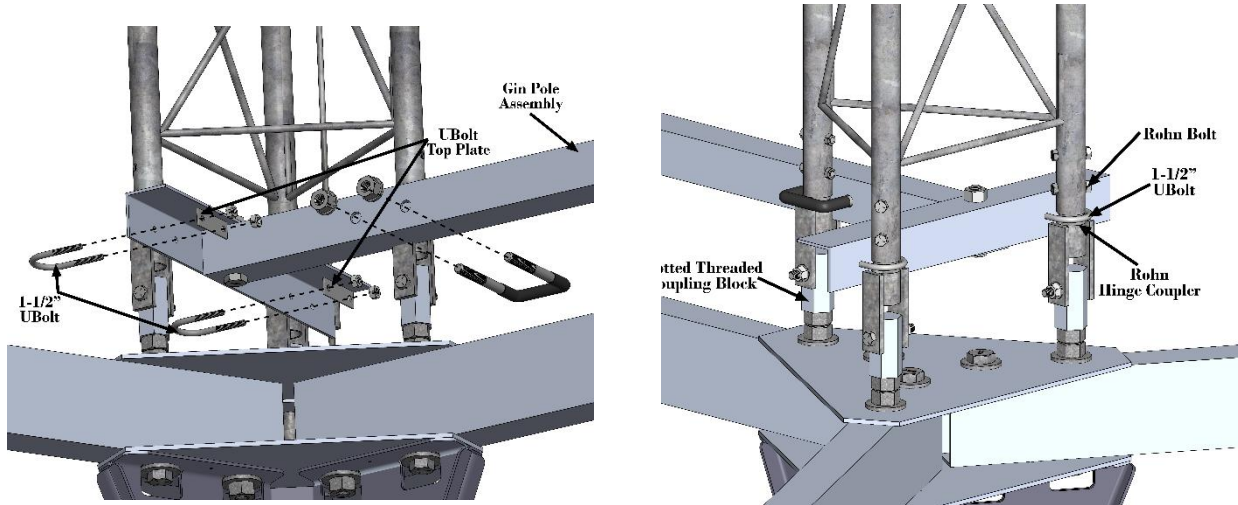
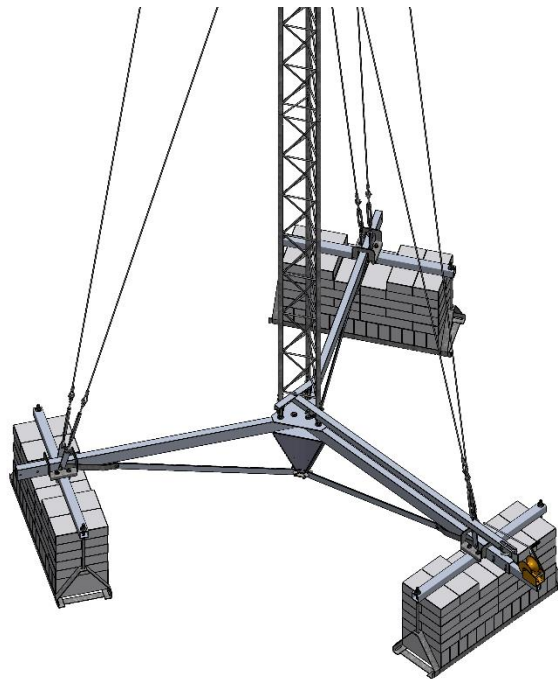

Figure 96 Mounting the gin Pole assembly
Figure 97 Gin pole assembly
◆ **WARNING** Attach the gin pole so it is below the bottom bolts of the Kuva Tower and above the hinged coupler as per Figure 96. The 1-1/2" U-bolt must locate in the grooved area. Failure to do this can cause the tower section to fail when lowering.
1. Mount the gin pole to the 40' Kuva Tower with provided 1- 1/2" U-bolts and square U-bolt as per Figure 96 and Figure 97.